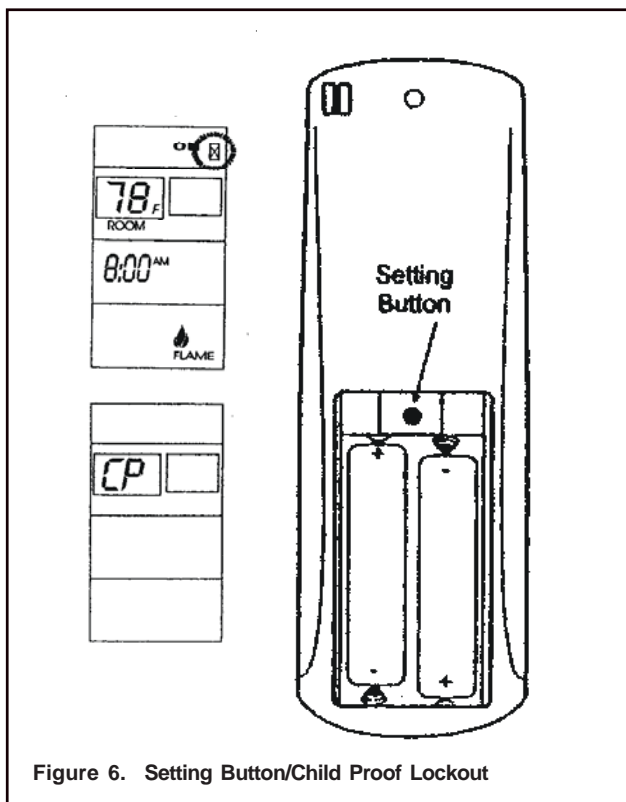

Figure 6. Setting Button/Child Proof Lockout
1. Remove the battery cover on the back of the transmitter and locate the "setting button" at the top center of battery compartment (see Figure 6).
1. Press and hold in the "setting button" for 5 seconds. The letters CP will display on the LCD screen (see Figure 6). This prevents the activation of fireplace. When any function button is pressed ON/OFF etc. the letter CP will display on the LCD screen.